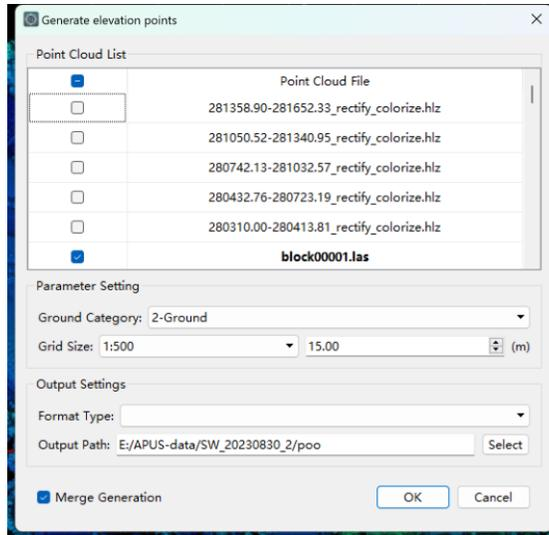

Figure 3-142 Generating Elevation Points
- Click menu <Terrain>→<Generate Elevation Points>, the dialog box will pop up (Figure 3-142). you can select the point cloud data that you need to generate the elevation point file,